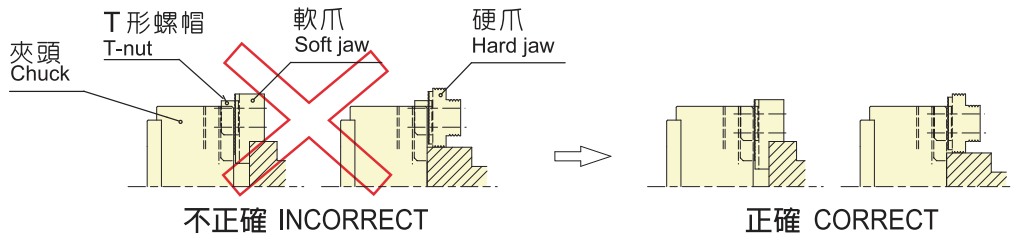

Fig.10
- 設定爪夾位置時必須注意 T 型螺帽不可以突出主爪。(Fig.10 右)
- T 型螺帽突出底爪，不正確使用方法將造成底爪 T 型螺帽的損壞及精度上的不準。(Fig.10 左)
- The T Nut must not be protrude from the master jaw. (Refer to Fig.10 right)
- The use on condition incorrect will cause damage to the master jaw and “ T ” nut as well as inaccuracy. (Refer to Fig.10 left)